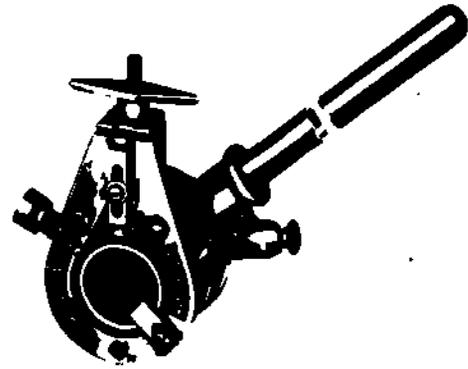

Figure 1-79. Victaulic Pipe Groover
a) Victaulic pipe groovers are available in both manually operated and power-operated types. The lighter models are portable; the heavier ones are more suitable for shop production. Groovers are available for cutting grooves in pipes from NPS  $\frac{3}{4}$  to NPS 24. Shown in Figure 1-79 is one type of Victaulic groover, known as the Individual Vic Groover, which is available for pipes from NPS  $\frac{3}{4}$  to NPS 8 with an adjustable model for NPS 4 to NPS 6 steel pipe.